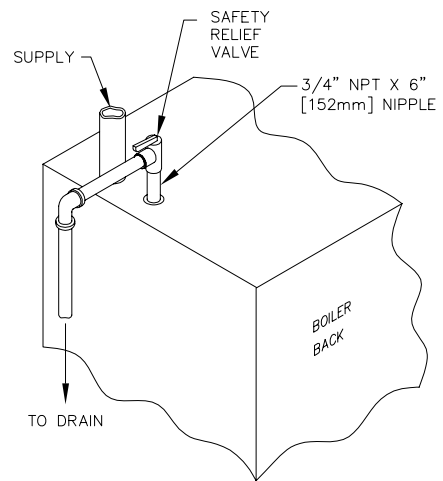

Figure 3.3: Safety Relief Valve Hook-Up Installation with Air Elimination in System Piping
- If air elimination is not required at the safety relief valve tapping, install valve and piping as shown in Figure 3.3.